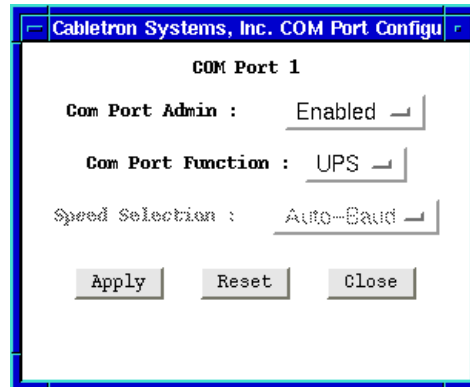

Figure 2-18. COM Port Configuration Window
You can use the COM Port Configuration window (Figure 2-18) to specify the function each of the two RS232 COM ports available on the 7X00 Controller module will perform. To do so:
2. Drag down to **Configuration**, and release. The COM Port Configuration window, Figure 2-18, will appear.